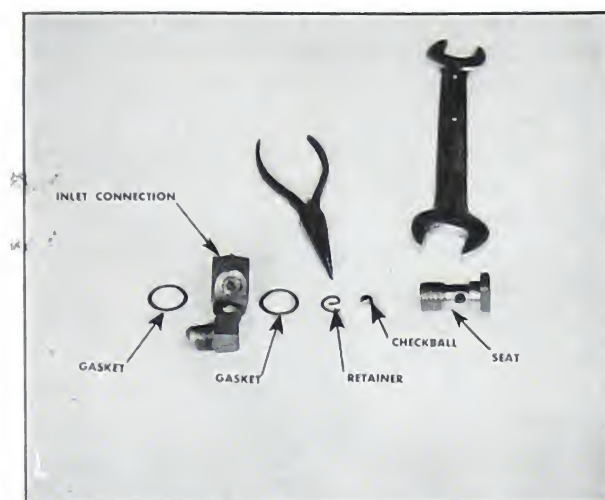

Fig. 5-279. Exploded view of check ball assembly
4. Assemble the check ball to the seat and secure with snap ring. **Fig. 5-279.**